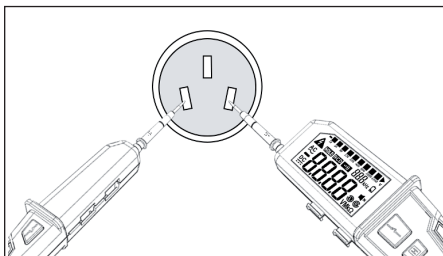

Fig. 3
1. Before the test, select an object of known voltage and connect the two probes to it (for example, a 220V outlet) to ensure the accuracy of the tester (see Figure 3). This tester cannot test AC or DC voltages below 5V. When testing a voltage of $<5V_{ac/dc}$, the LCD will display "---".